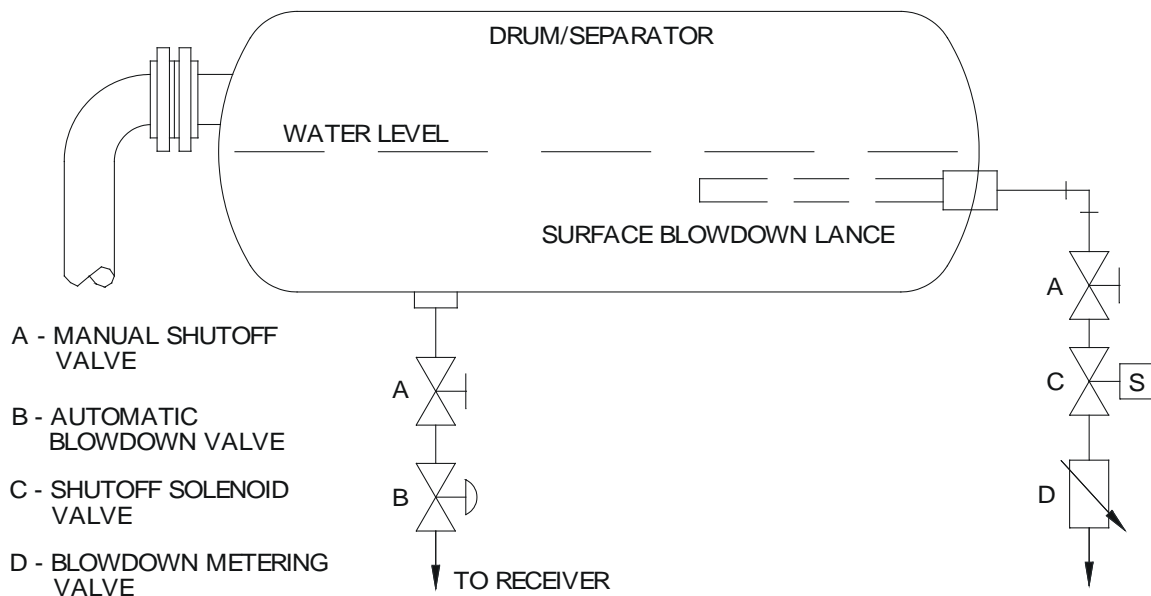

Figure 29. Piping Arrangement for Continuous Surface Blowdown
17.2.3 In some installations the proportion of required surface blowdown to bottom blowdown may be large enough so that water is wasted from frequent simultaneous blowdowns. When this occurs the surface blowdown may be piped directly to the blowdown receiver as illustrated in Figure 29 and the flow throttled so that surface blowdown is continuous.